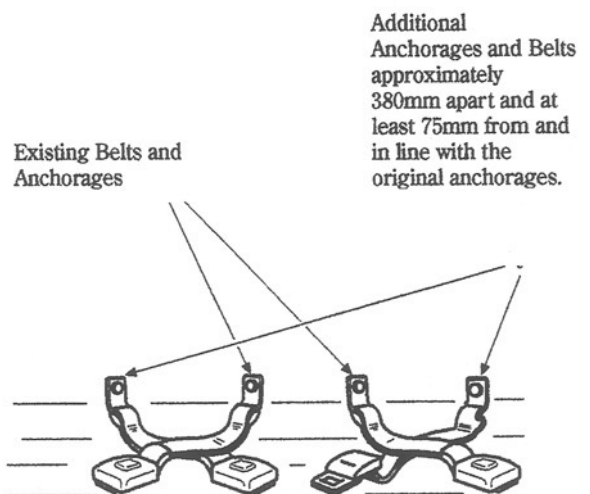

FIG 1
- (A) In cases where an additional seat belt is to be fitted to the centre of a rear seat originally fitted with two lap sash belts (see Fig. 1).
- (ii) Approximately in line with the original anchorages and at least 75mm away from any other anchorage. (See Fig. 1).and;